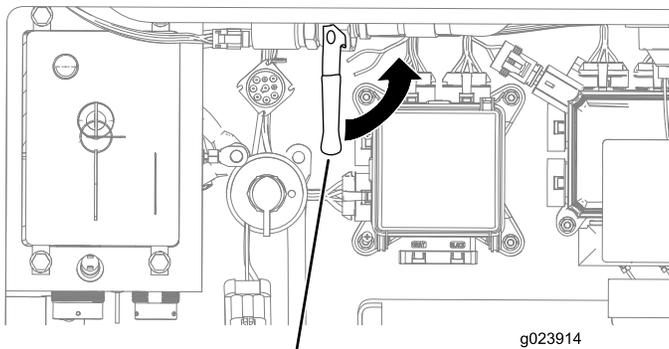

Figure 127
A. Open the antifreeze valve inside of the rear compartment (Figure 127).
6. Close the antifreeze valve (Figure 127).